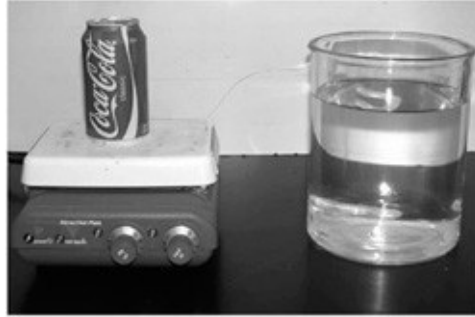

Figure 35-1 *A small amount of water in the can is heated.*
3. Place the can on the hotplate and keep it there until the water boils and steam comes out of the can (Figure 35-1).